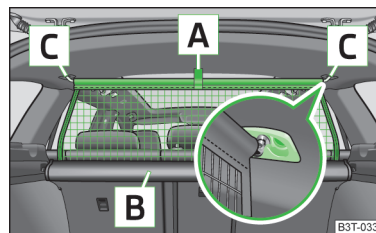
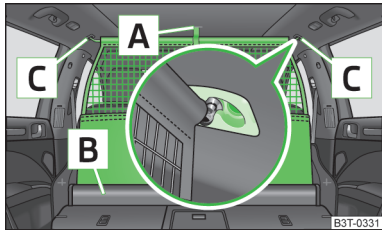

Fig. 118
Fig. 119
- Make sure that the transverse rod is inserted into the mounts **C** » Fig. 118 on page 105 or » Fig. 119 on page 106 in the forward position.
- Pull the net partition by the tab **A** » Fig. 118 in the direction of the fasteners **C**.
- Pull the transverse rod back slightly first on one side and then on the other and remove it from the mounts **C** » Fig. 118.
- Pull the net partition by the tab **A** » Fig. 119.
- Pull the transverse rod back slightly first on one side and then on the other and remove it from the mounts **C** » Fig. 119.